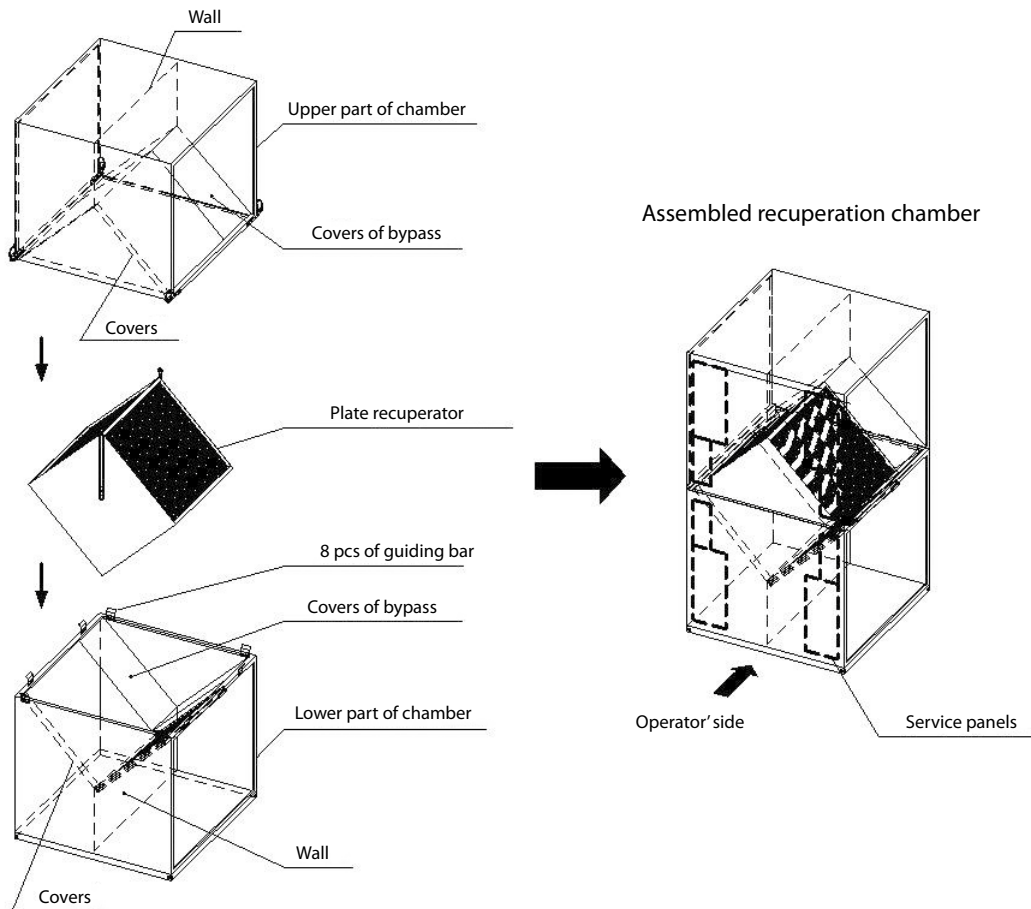

Figure 1 – Assembly diagram of split chamber
- SEAT THE UPPER PART OF THE CHAMBER ON THE LOWER PART; THE ACCURATE POSITION WILL BE ENSURED BY GUIDING BARS, SEE FIG. 1 1